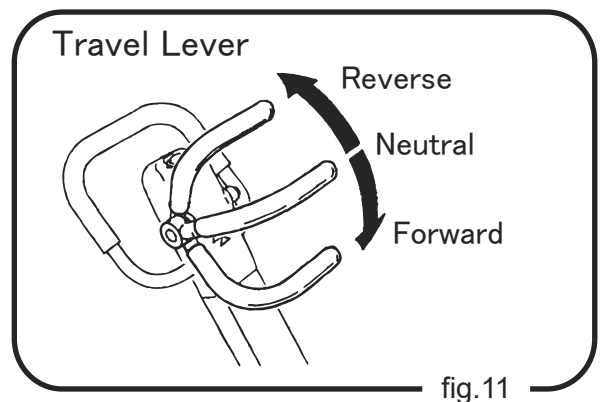

fig.11
2. Use the back and forth travel lever to make the machine move backward and forward. When the lever is pushed forward, the machine moves forward, when pulled backward, the machine moves backward. At neutral, the machine vibrates staying at the same location. (Fig. 11)